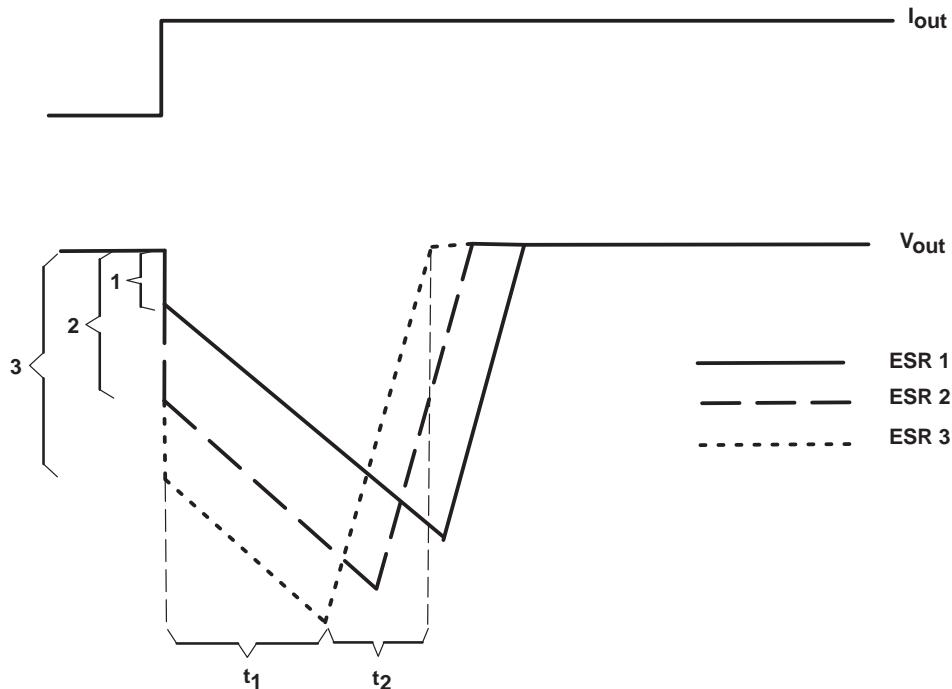

Figure 23. Correlation of Different ESRs and Their Influence to the Regulation of  $V_{out}$  at a Load Step From Low-to-High Output Current
- The LDO is not able to supply the sudden current need due to its response time ( $t_1$  in Figure 23). Therefore, capacitor  $C_{out}$  provides the current for the new load condition (dashed arrow).  $C_{out}$  now acts like a battery with an internal resistance, ESR. Depending on the current demand at the output, a voltage drop will occur at  $R_{ESR}$ . This voltage is shown as  $V_{ESR}$  in Figure 22.
- When  $C_{out}$  is conducting current to the load, initial voltage at the load will be  $V_{out} = V_{Cout} - V_{ESR}$ . Due to the discharge of  $C_{out}$ , the output voltage  $V_{out}$  drops continuously until the response time  $t_1$  of the LDO is reached and the LDO resumes supplying the load. From this point, the output voltage starts rising again until it reaches the regulated voltage. This period is shown as  $t_2$  in Figure 23.